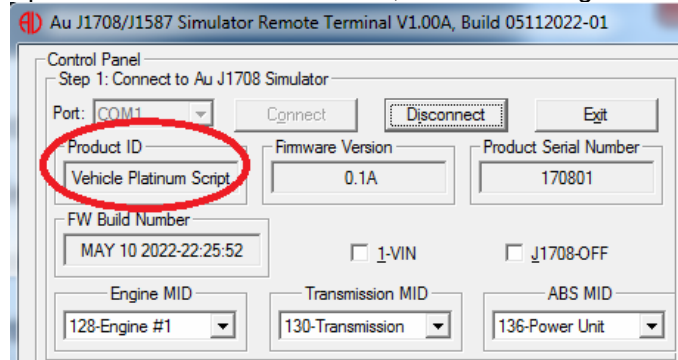

Figure 6-13
- When it is updated successfully, a beep will be heard. About J1708 Simulator window will close automatically, and the Product ID (Edition of J1708/J1587 Simulator) will update to the new edition (Vehicle Platinum Script Edition in this demonstration, as shown in Figure 6-13).